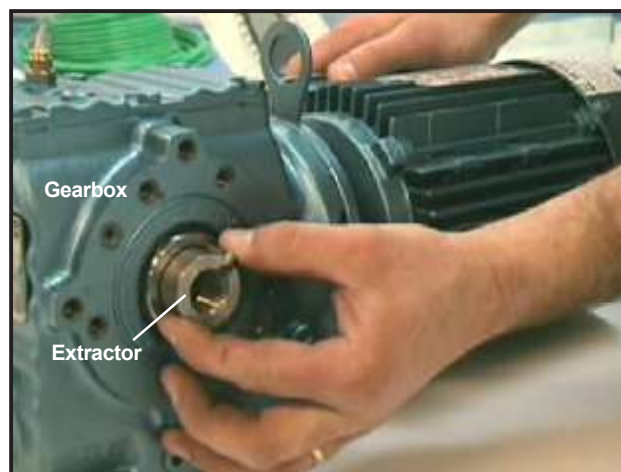

Figure 36: Insert extractor
- Insert the extractor into the same end of the gearbox into which the drive shaft will be inserted (*Figure 36*). The extractor bolt should “bottom out” on the retaining ring in the gearbox.